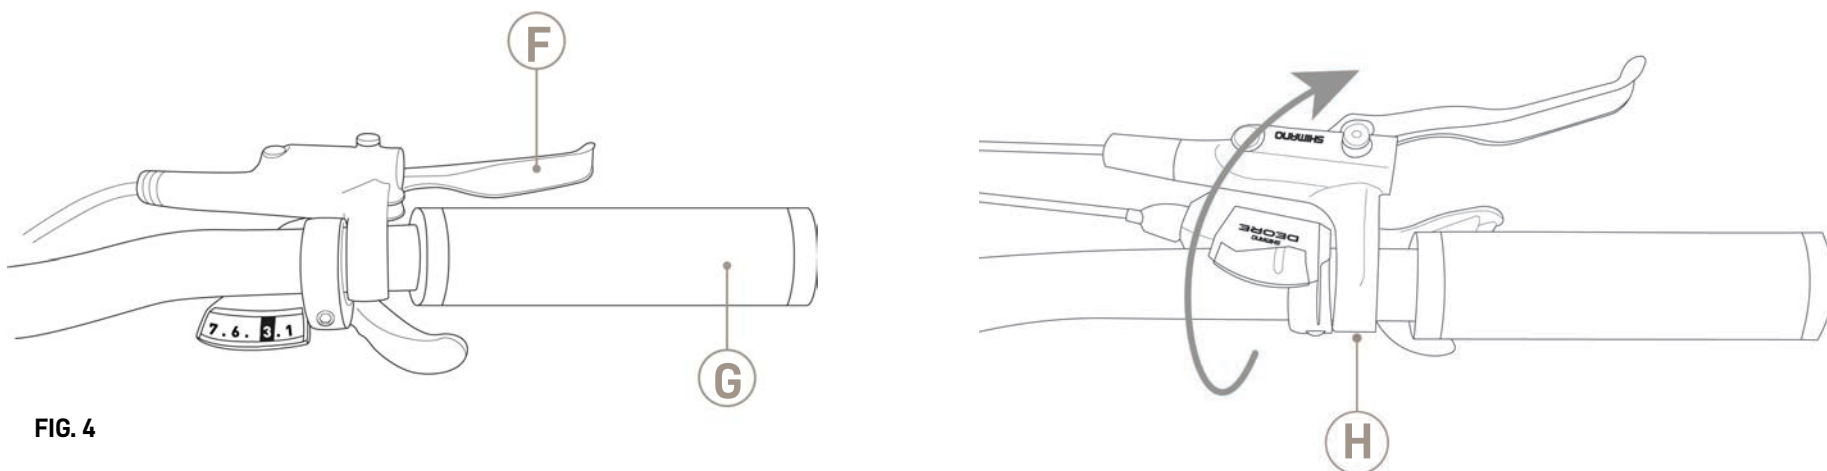

FIG. 4
The brake levers (Ref. F – Fig. 4) are located on the handlebar near the grips (Ref. G – Fig. 4). These systems allow the braking system to be activated. The braking action is proportional to the force applied on the levers. The right brake lever activates the rear brake while the left brake lever activates the front brake
- Rotate the brake lever using the tightening screw (Ref. H - Figure 4) until you reach a comfortable hand position; Check that you have tightened the screw correctly before using the pedal-assisted bicycle.